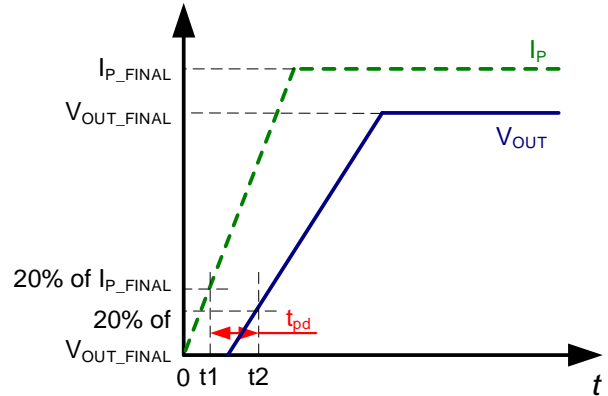

Figure 6: Propagation Delay ( $t_{PD}$ )
2.  $t_2$ :  $V_{OUT}$  reaches 20% of its final value, as it corresponds to the applied primary current (see Figure 6).